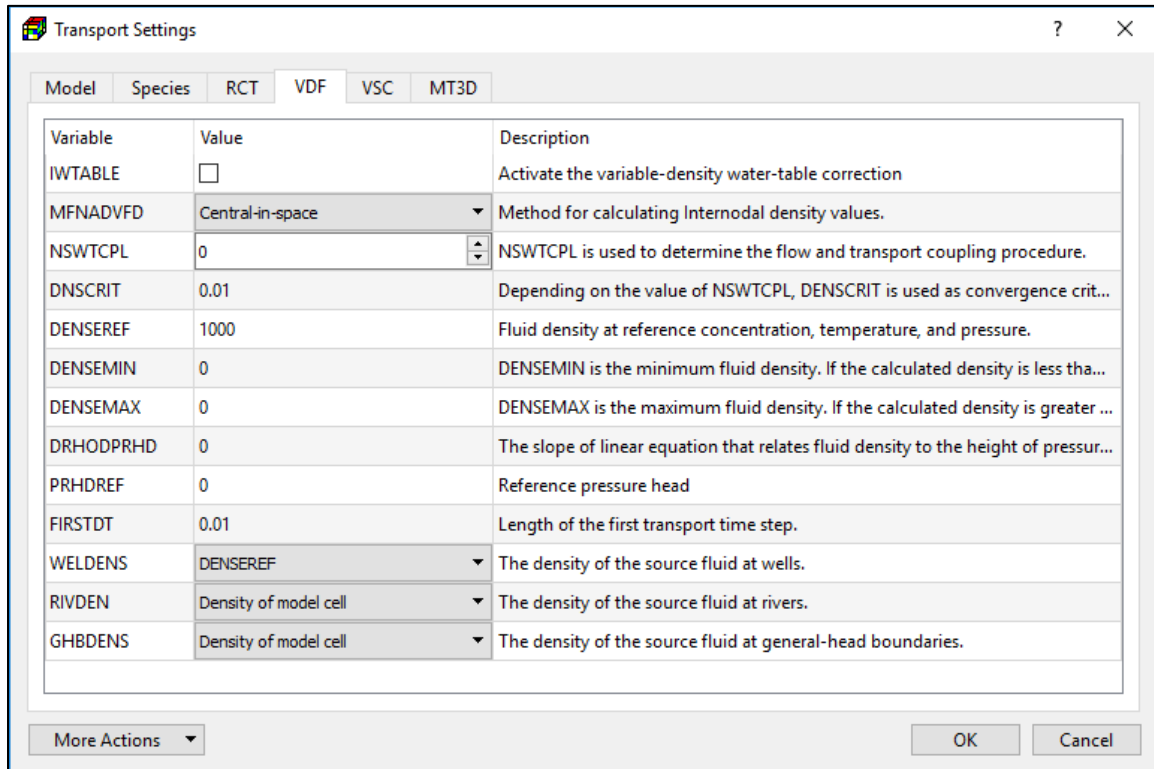

Figure 111. The VDF tab of the Transport Settings dialog box
- **Electron Donor (ED)** is the electron donor in the EA/ED reaction.
- **Electron Acceptor (EA)** is the electron acceptor in the EA/ED reaction.
- **Stoichiometric ratio (F):** F is used in the simulated equation as follows: $ED + F \times EA \rightarrow \text{Product}$.
5. **VDF Tab** (Figure 111) contains options for the Variable-Density Flow Process of SEAWAT.